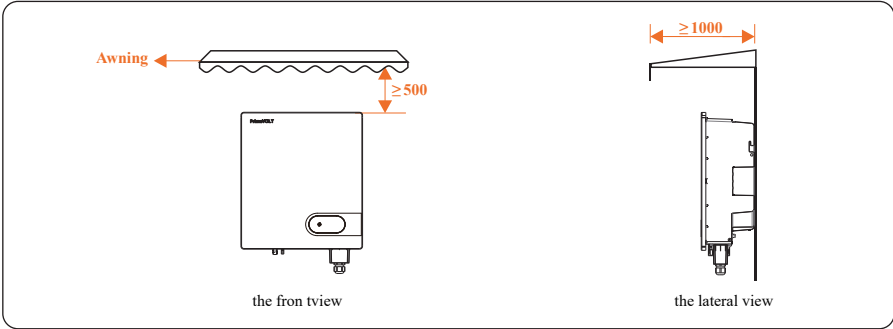

Figure4.3 Installation environment with awning (unit: mm)
- c. The inverter must be free from direct exposure to sunlight, rain, and snow to extend its service life. It is recommended that the inverter be installed in a sheltered place. If no shelter is available, build an awning, as shown in Figure 4.3.